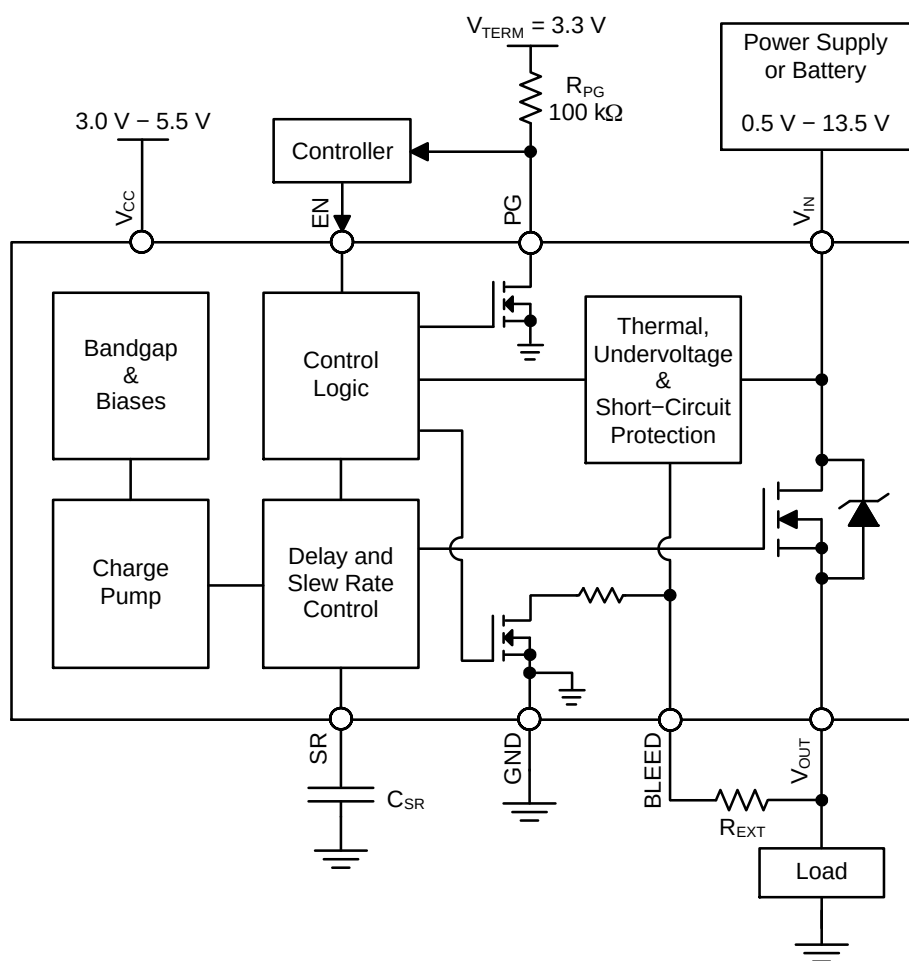
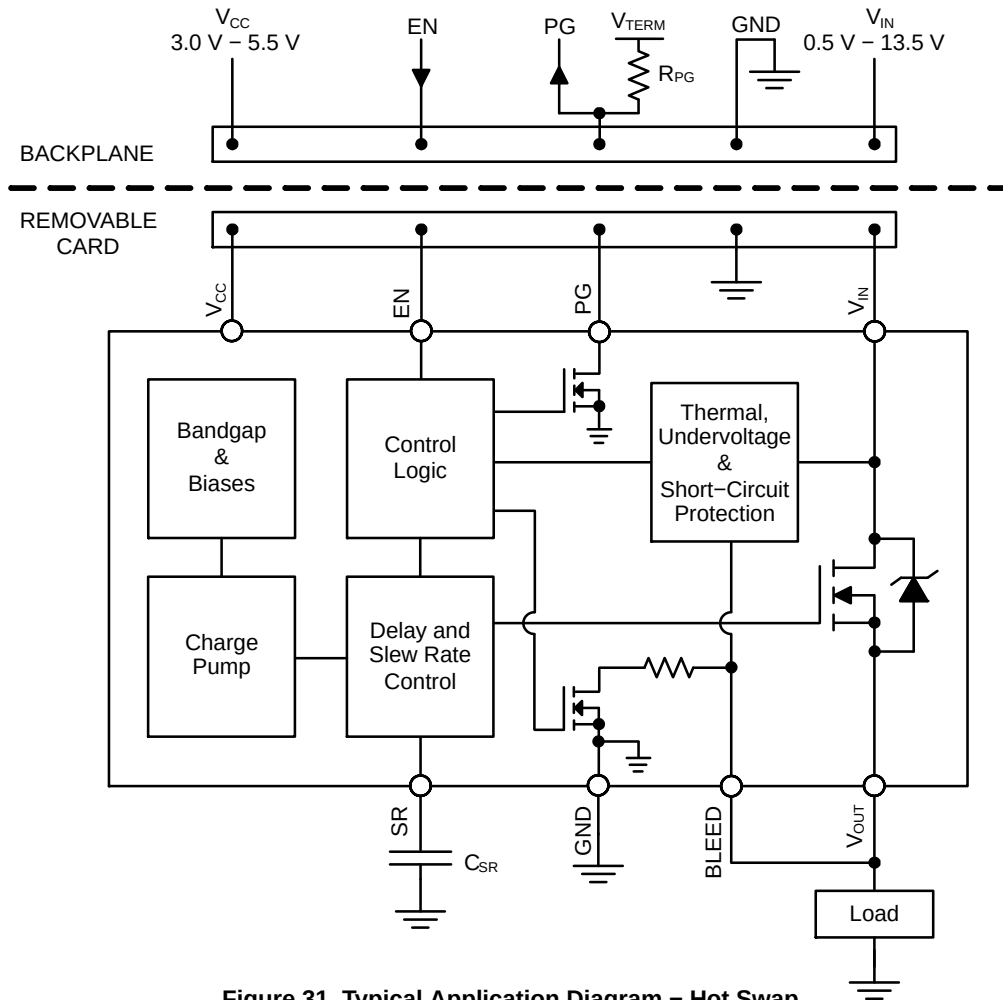

Figure 30. Typical Application Diagram – Load Switch
Figure 31. Typical Application Diagram – Hot Swap
It is required that the BLEED pin be connected to  $V_{OUT}$  either directly (as shown in Figure 31) or through an external resistor,  $R_{EXT}$  (as shown in Figure 30).  $R_{EXT}$  should not exceed 1 k $\Omega$  and can be used to increase the total bleed resistance.
The NCP45540 devices have a power good output (PG) that can be used to indicate when the gate of the MOSFET is fully charged. The PG pin is an active-high, open-drain output that requires an external pull up resistor,  $R_{PG}$ , greater than or equal to 1 k $\Omega$  to an external voltage source,  $V_{TERM}$ , compatible with input levels of other devices connected to this pin (as shown in Figures 30 and 31).
The slew rate can be decreased with an external capacitor added between the SR pin and ground (as shown in Figures 30 and 31). With an external capacitor present, the slew rate can be determined by the following equation:
Once active, the circuitry monitors the difference in the voltage on the  $V_{IN}$  pin and the voltage on the BLEED pin. In order for the  $V_{OUT}$  voltage to be monitored through the BLEED pin, it is required that the BLEED pin be connected to  $V_{OUT}$  either directly (as shown in Figure 31) or through a resistor,  $R_{EXT}$  (as shown in Figure 30), which should not exceed 1 k $\Omega$ . With the BLEED pin connected to  $V_{OUT}$ , the short-circuit protection is able to monitor the voltage drop across the MOSFET.